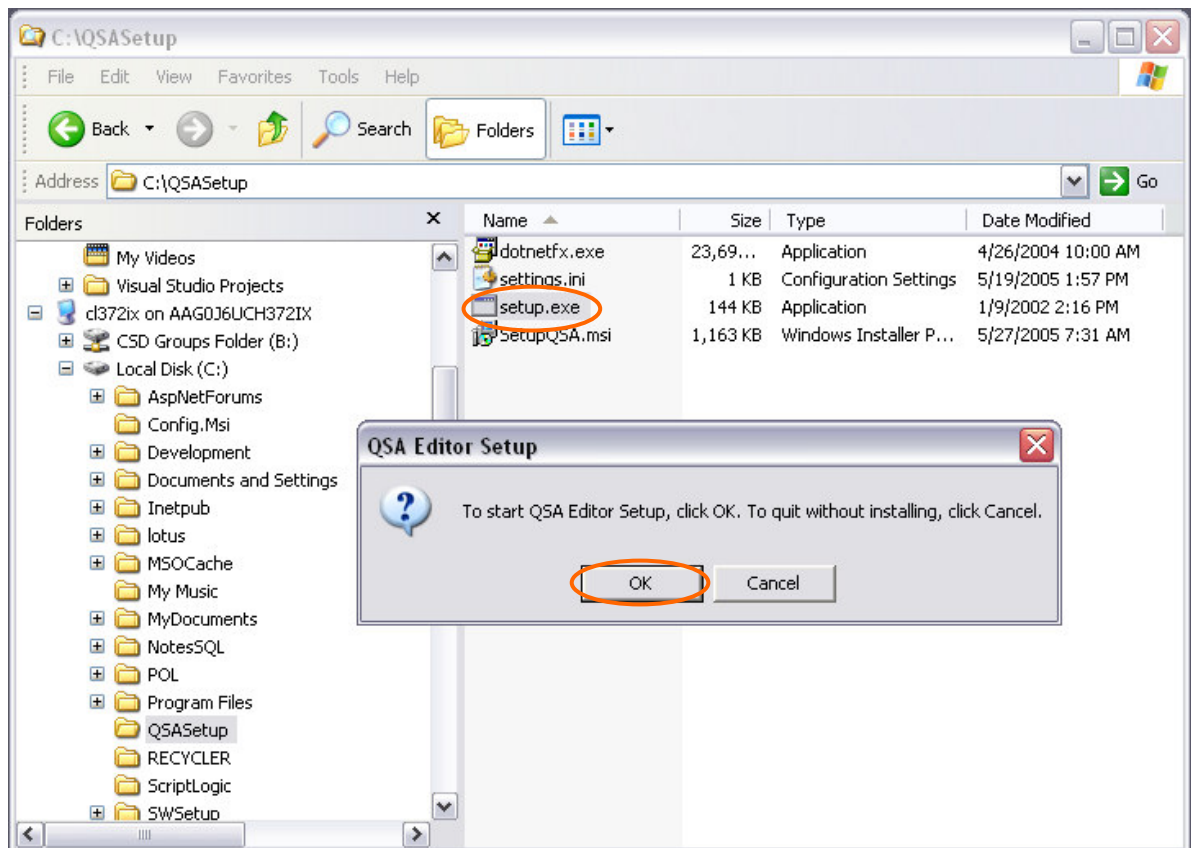

Figure 46 – Setup.exe
- On the “Select Installation Folder” window, click on the “Next” button (figure 46).